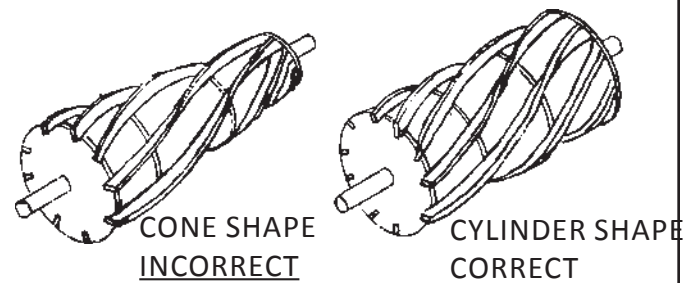

FIG. 56
THIS IS A CRITICAL SET UP AND CARE SHOULD BE TAKEN WHEN MAKING THESE ADJUSTMENTS. IF REEL IS OUT OF POSITION IN THE HORIZONTAL PLANE, IT WILL BE GROUND CONE SHAPED. SEE FIG. 56.
IT IS ESSENTIAL THAT CARE IS TAKEN WHEN SETTING THE REEL UP IN THE HORIZONTAL POSITIONS IN ORDER TO GRIND IT INTO A CYLINDER SHAPE. ANY MISALIGNMENT WILL CAUSE YOU TO GRIND INTO A CONE. SEE FIG. 56.
A. Before storing the set up gauge, it is very effective to use it to check the unground reel to determine the amount the reel is conical in shape and which end has the larger diameter. See FIG. 56. 56. Start with the set up gauge at the right end of the reel. Loosen the knob on the indicator stop bar, holding the indicator rod firmly against one blade. See FIG. 53. Pull the indicator stop bar back until it clears the plunger then advance it forward until it contacts the plunger and advances it 1/2 inch further. Lock in place. This sets the plunger at its midpoint and allows adequate movement in both directions. Set outer dial at zero and note position of pointer on small dial.